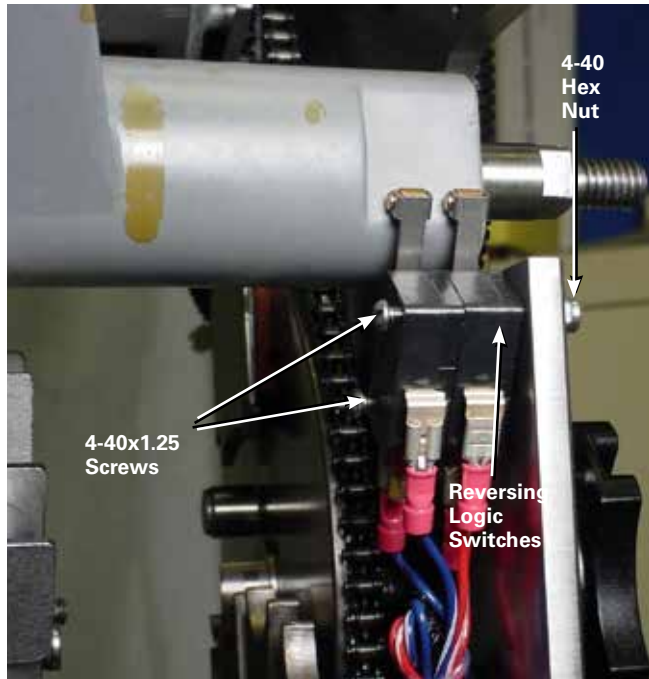

Figure 45. Reinstalling logic switches.
- Place the mounting hardware onto the reversing logic switches and fasten to the tap-changer front plate. While holding a small screwdriver (or 5/32" Allen wrench), tighten the nuts to a torque of 4–5 in-lbs (0.5–0.6 Nm). See Figure 45.